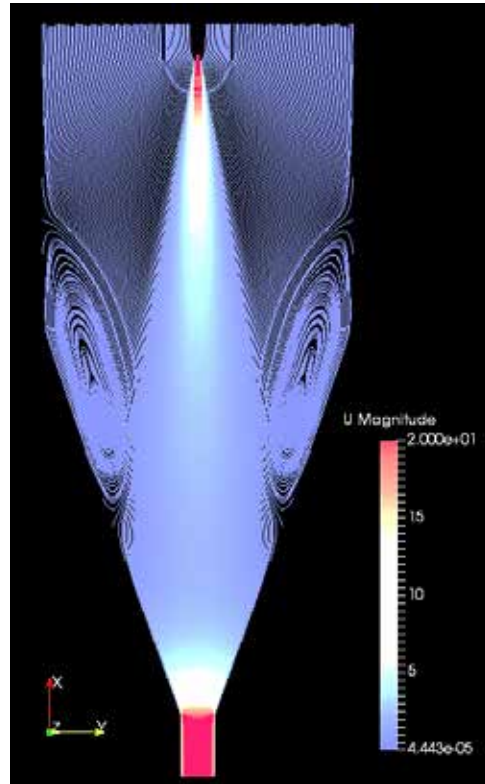

Fig. 3 Velocity profile in spray tower
- CFD calculation of temperature and velocity profiles for spray tower dimensioning (Fig. 3).